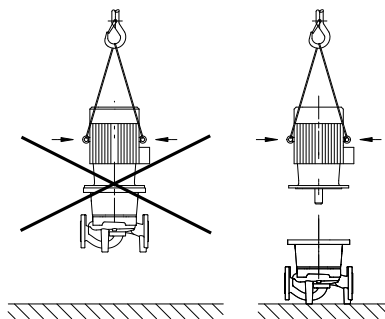

Fig. 35: Transporting the motor
- The transport eyes on the motor are only for transporting the motor and are not approved for transporting the complete pump (Fig. 35).